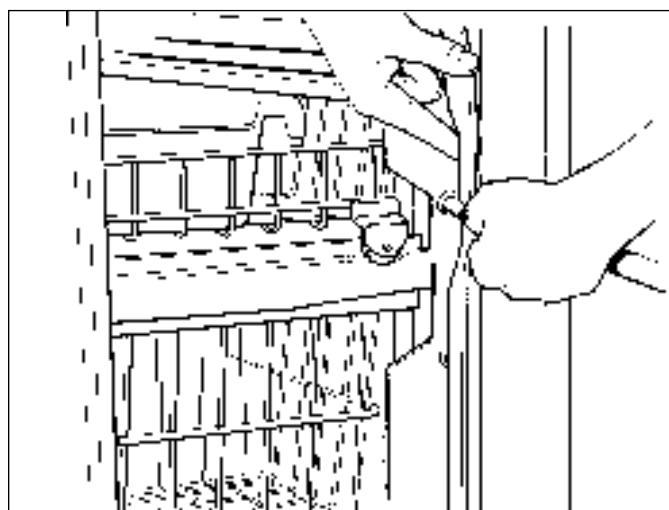

Figure 2-8. Drawer Front Pitch Adjustment
- Remove two 3/4" white plastic plugs from each side of plastic drawer liner. (See Figure 2-8)
- With 3/8" socket, loosen bolts, then adjust drawer front pitch accordingly. (See Figure 2-8).